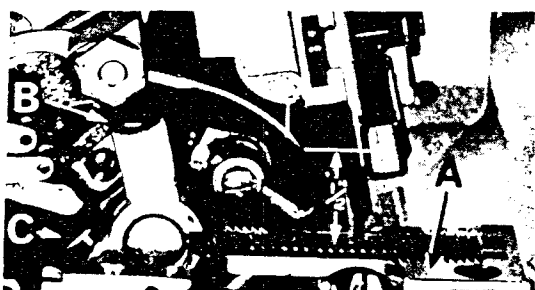

Fig. 3
With throat plate assembled in position, needle should center in the front end of needle slot. When needle is at high position, needle point should be set  $1/2$  inch above throat plate (A, Fig. 3). To align needle or set the height above the throat plate, move needle driving arm (B, Fig. 3) by loosening clamp screw (C). Remove throat plate.